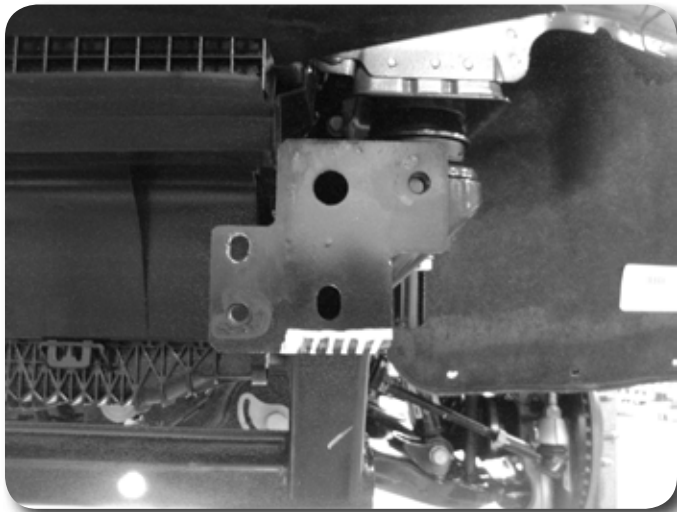

Figure 14
43. On both sides, using the new front bumper brackets as a template, cut the material shown in the figure from the frame. Also drill a 7/16" hole at the inside bracket mounting hole. See Figure 14